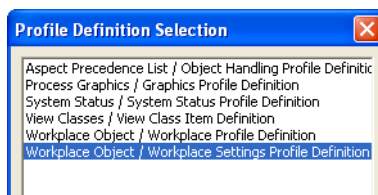

Figure 137. Profile Definition Selection Dialog Box
2. The Profile Definition Selection is displayed. Select **Workplace Object/Workplace Settings Profile Definition**. See Figure 137.